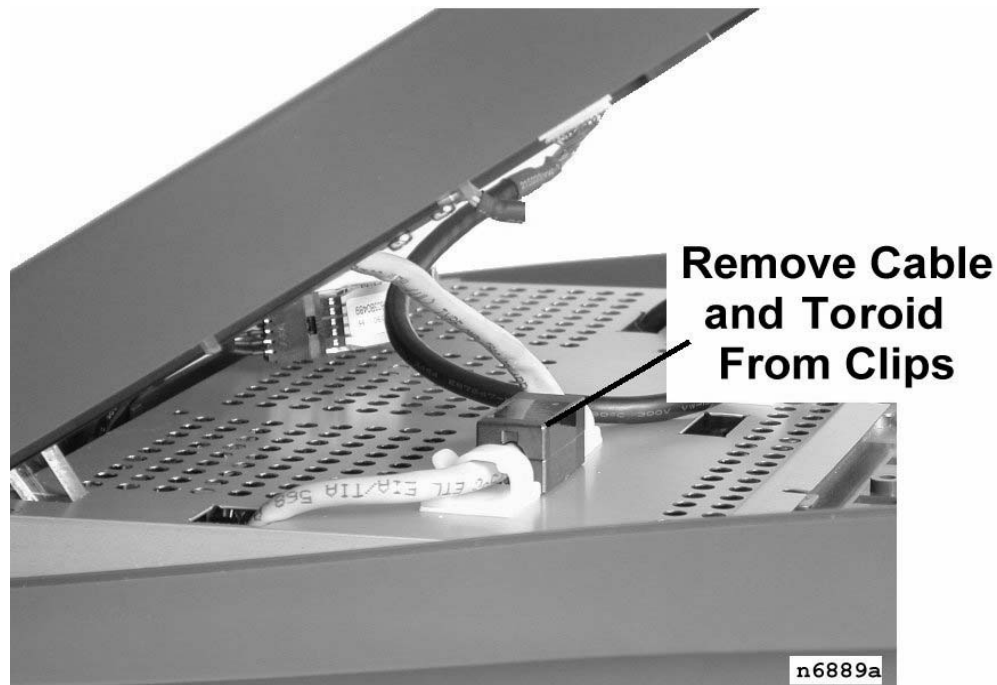

Figure 2-2: Removing the Mag Stripe Reader Cable Toroid
5. Raise the rear of the cover and remove the toroid mounted to the RF shield as shown in Figure 2-2. The toroid is fastened to a cable held in place on the RF shield with a pair of clips.